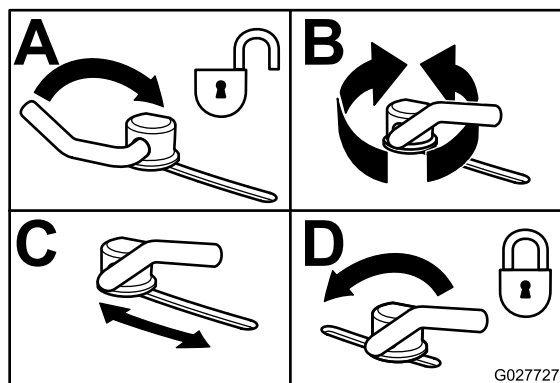

Figure 32
3. To adjust the cam locks, swing the lever up to loosen the cam lock (Figure 32).
- Swing the lever back over to tighten the baffle and cam locks (Figure 32).